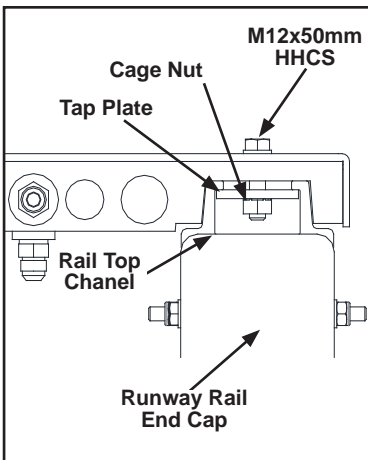
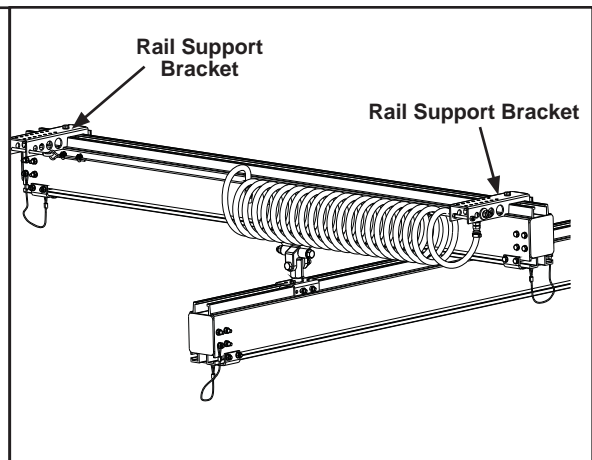

Figure 3-114
Figure 3-116
- Step 1. Start at runway rail end closest to plant air supply. Attach rail support bracket (support bracket with fittings), loosen cage nut and slide support bracket on to rail top channel. Position approximately one (1) in (25 mm) from end of rail. See Figure 3-114 through Figure 3-116.